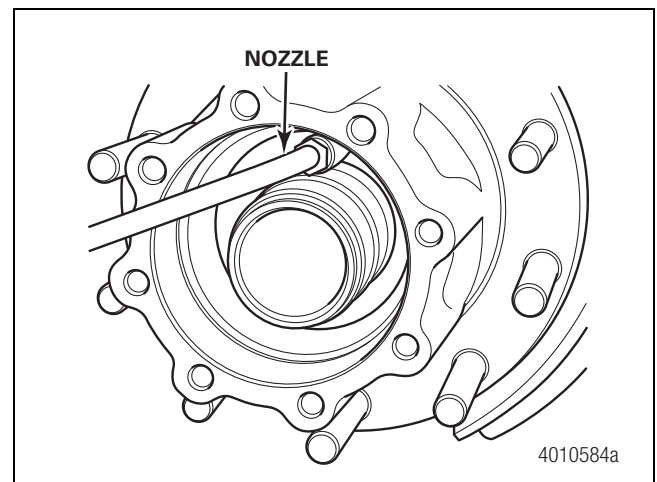

Figure 10.3
- Insert a filling nozzle into the hub cavity and fill with approximately 6-9 oz. (177-266 ml) of axle lubricant. Figure 10.3.